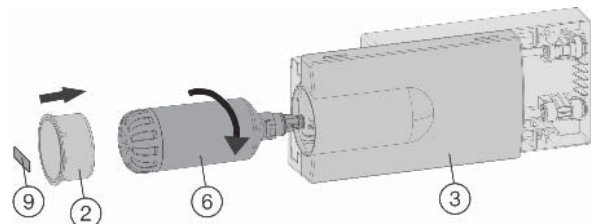

Fig. 63
- ▶ Place the tray cover *Fig. 63 (3)* in position.
- ▶ Insert the water filter *Fig. 63 (6)* and turn it approximately 100° to the right until it locks into position.
- ▶ Place the cover *Fig. 63 (2)* on the filter.
- ▶ Write the date of the next filter replacement on the supplied adhesive label *Fig. 63 (9)* and affix it to the module.